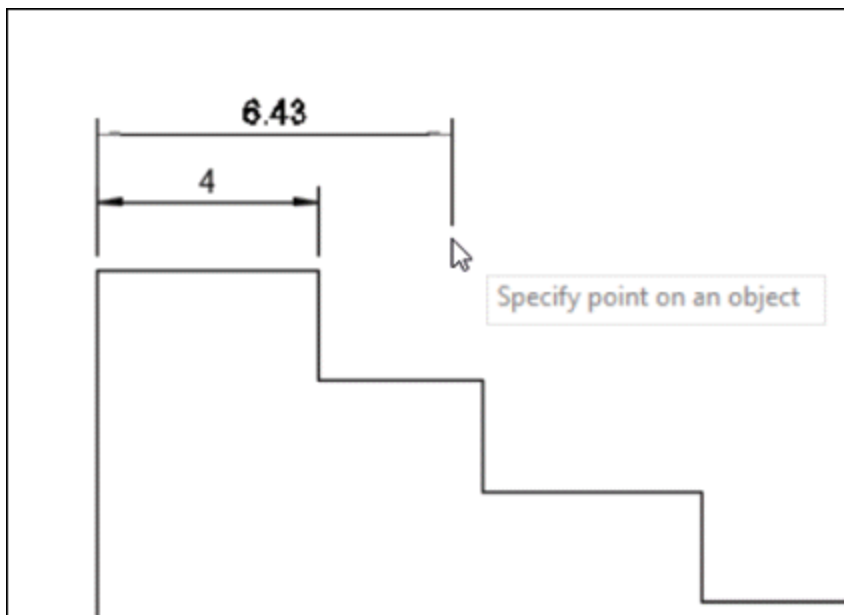

Figure-66. Placing baseline dimension
- A new dimension will be generated with one end point fixed to selected leg and other end point of dimension attached to cursor; refer to Figure-66.